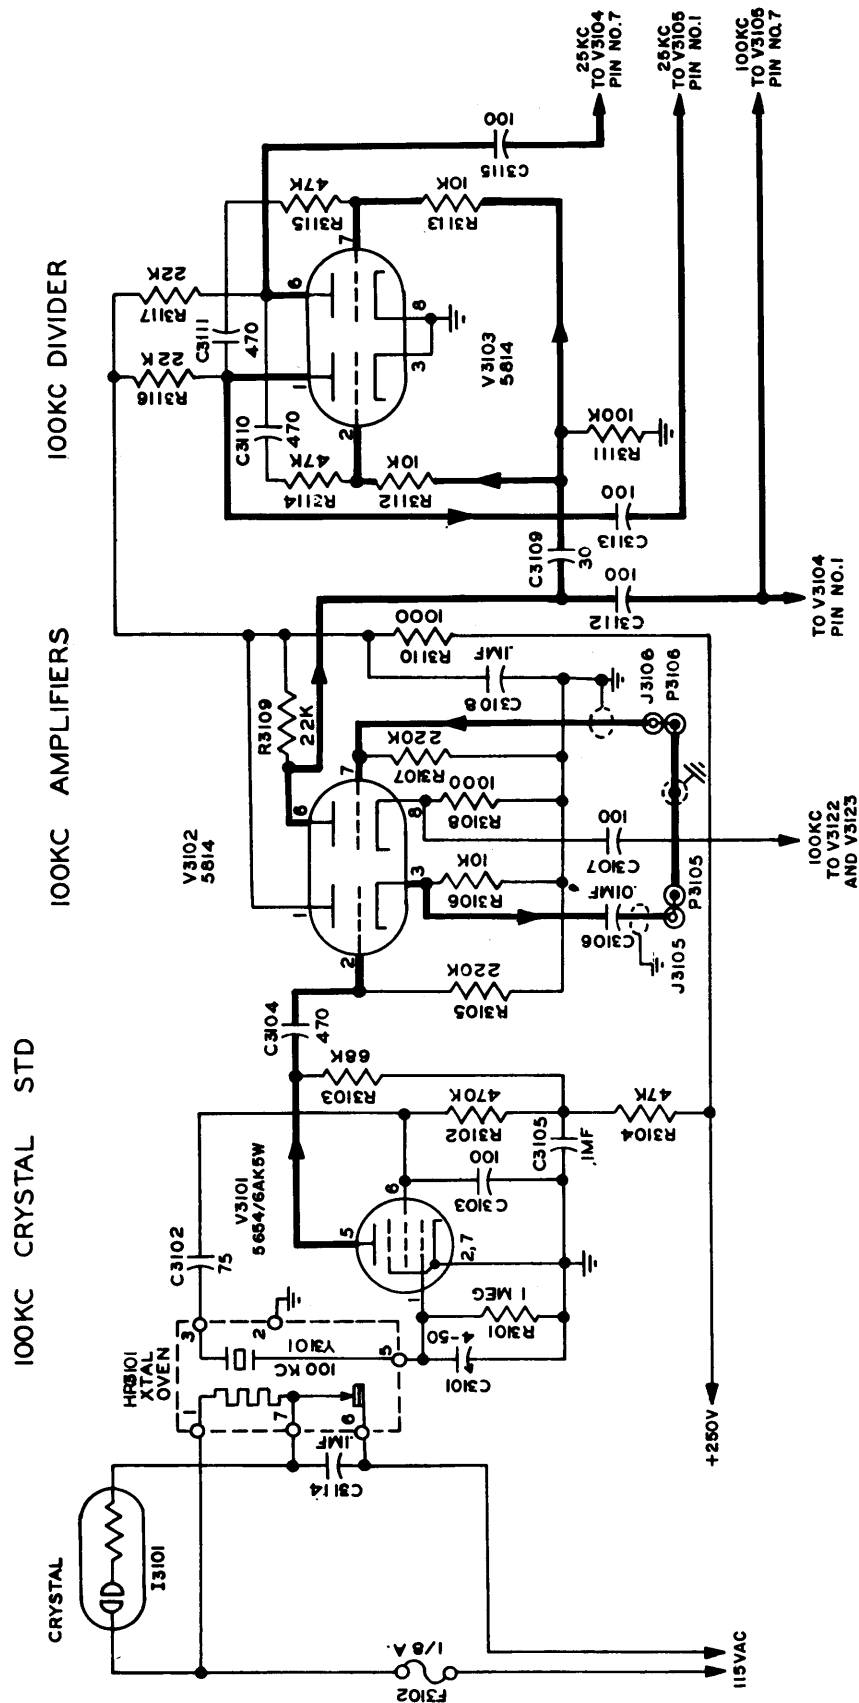

Figure 2-38. 100-KC Crystal Oscillator, Amplifiers and Divider, Simplified Schematic
(4) 100-KC CRYSTAL OSCILLATOR (see figure 2-38).—The 100-kc crystal oscillator employs a JAN 5654/6AK5W miniature pentode (V3101), in an electron-coupled, Pierce-type of oscillator circuit. In this circuit, the screen grid of V3101 is used for the oscillator plate. Feedback takes place through a division of voltage between the screen-to-cathode capacitance and the grid-to-cathode capacitance of the tube, and the crystal acts as a resonant circuit. By
(5) 100-KC AMPLIFIER (see figure 2-38). — The 100-kc amplifier (V3102) uses a JAN 5814 miniature dual-triode tube. The input signal is taken from the plate circuit of the crystal oscillator and is applied through C3104 to the grid of section A of V3102, which is connected as a cathode follower. The output of the cathode follower is brought out to a coaxial connector on the rear of the chassis (J3105), so that a signal can be supplied to any external equipment that requires a 100-kc source. Section B of V3102 is operated as a Class-A amplifier with cathode bias, and its grid circuit is connected to a coaxial connector, (J3106), also located on the rear of the chassis. If an external 100-kc standard is used, its output may be fed into J3106. If use of the self-contained 100-kc standard is desired, a coaxial jumper is used to connect J3105 to J3106. The output from V3102B is fed through C3112 to the 450-kc amplifier stage, and through C3109 to the crystal-divider circuit.
(6) 100-KC DIVIDER (see figure 2-38).— the resistors cause the grid of tube B to be driven in a negative direction toward cutoff. This causes the plate voltage on tube B to increase, as the plate current tapers off. As the charge on C3110 tends to follow this increase, a corresponding increase of voltage, in the positive direction, is transferred to the grid of tube A, causing its plate voltage to continue decreasing. The action is cumulative, and as a result, the grid of tube B is driven beyond cutoff for a period until the discharge of C3111 is nearly completed. During the time that tube B is cut off, tube A conducts strongly. The amount of time required for C3111 to discharge is determined by the time constant of the grid-circuit network associated with tube B.